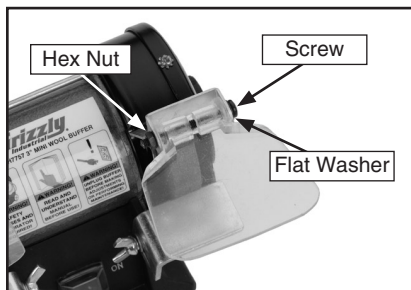

Figure 4. Eye Shield Installation.
2. Attach the eye shield to the bracket with the 4mm Phillips head screws, flat washers, lock washers and hex nuts as shown in **Figure 4**. The hex nut should be tightened to a point where the eye shields are stiff to move.